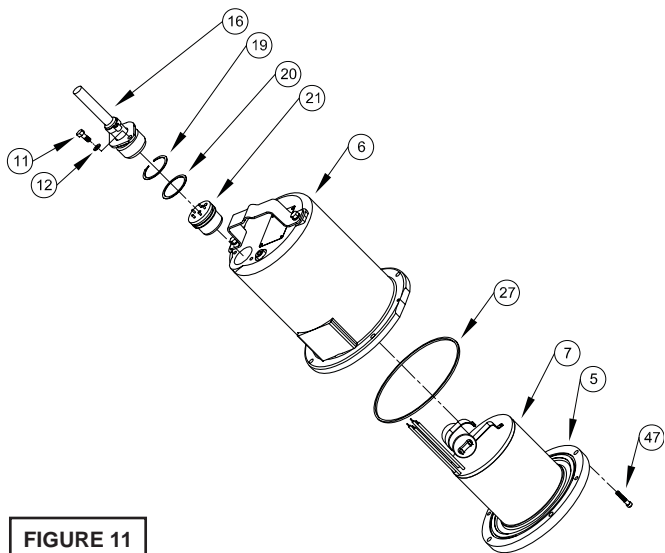
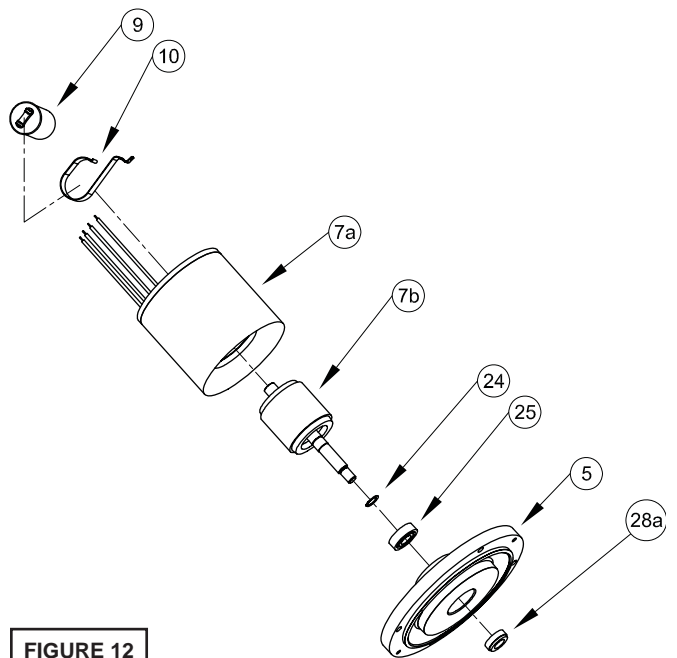

FIGURE 11
FIGURE 12
Use needle nose pliers to pull each female connector off of the pins on the underside of the terminal block (21), see Figure 11. The unit voltage should be noted. Repeat cable and terminal block removal procedure for any control cables (56) if equipped. Remove socket head cap screws (47). Vertically lift the motor housing (6) from seal plate (5) by lifting handle (13). Inspect square ring (27) for damage or cuts. Remove the motor bolts and lift motor stator from seal plate (5). Disconnect capacitor leads from capacitor (9, single phase units). Examine bearing (25) and replace if required. If replacement is required, remove bearing (25) from motor shaft using a wheel puller or arbor press, see Figure 12.